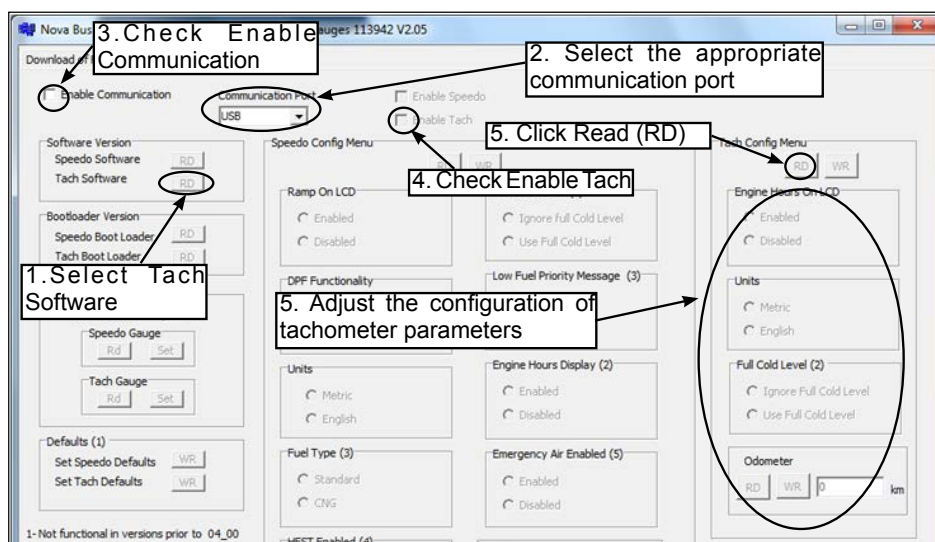

Figure 25 - Adjusting Tachometer Parameters
4.1.4 Use the Tach Config menu to check tachometer parameters and make the required adjustments. Check that the configuration of parameters is the same as in step 4.1.1. If the configuration remains the same, skip to the next step. If the configuration is different, make changes as necessary and click WR to save (see Figure 25).